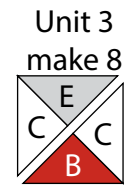

Fig. 3
3. Sew together (1) $7\frac{1}{4}$ " Fabric C triangle and (1) $7\frac{1}{4}$ " Fabric B triangle along short sides to make (1) CB triangle. Sew (1) $7\frac{1}{4}$ " Fabric E triangle and (1) $7\frac{1}{4}$ " Fabric C triangle together along short sides to make (1) EC triangle. Sew together the CB and EC triangles along their long sides to make (1) $6\frac{1}{2}$ " Unit 3 square (Fig. 3). Repeat to make (8) Unit 3 squares total.